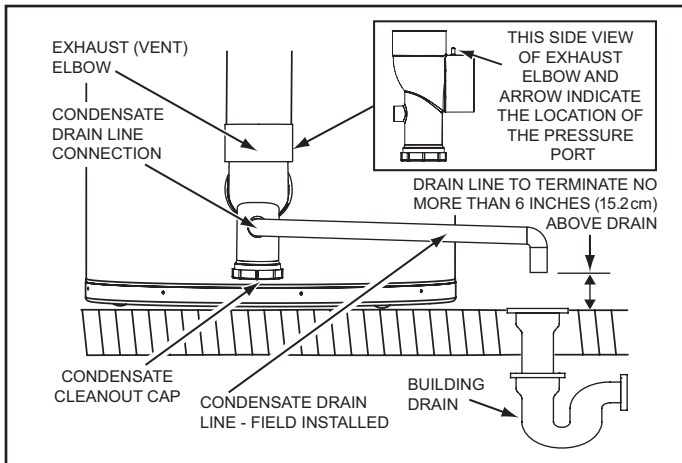

Figure 8
Condensate drains from the water heater at the exhaust elbow located at the bottom. The field installed condensate drain line must not be elevated above the condensate drain connection on the condensate trap, see Figure 8. If the condensate does not drain properly it will build up in the exhaust (vent) elbow. This will restrict the flow of flue gases and cause the Blocked Exhaust pressure switch to open its contacts. The control system monitors all pressure switches, if the Blocked Exhaust Switch contacts are open the control system will lock out and disable heating operation. The "Blocked Exhaust" Fault message will be displayed on the control system's LCD, see Fault And Alert Conditions beginning on page 60.
**DO NOT** remove the factory installed exhaust/condensate elbow for any reason, see Figure 8. The water heater's vent pipe is under a slight positive pressure while unit is in operation. The water trap inside of the exhaust/condensate elbow prevents flue gases from escaping into the installed space. See Condensate Drain Installation on page 39.